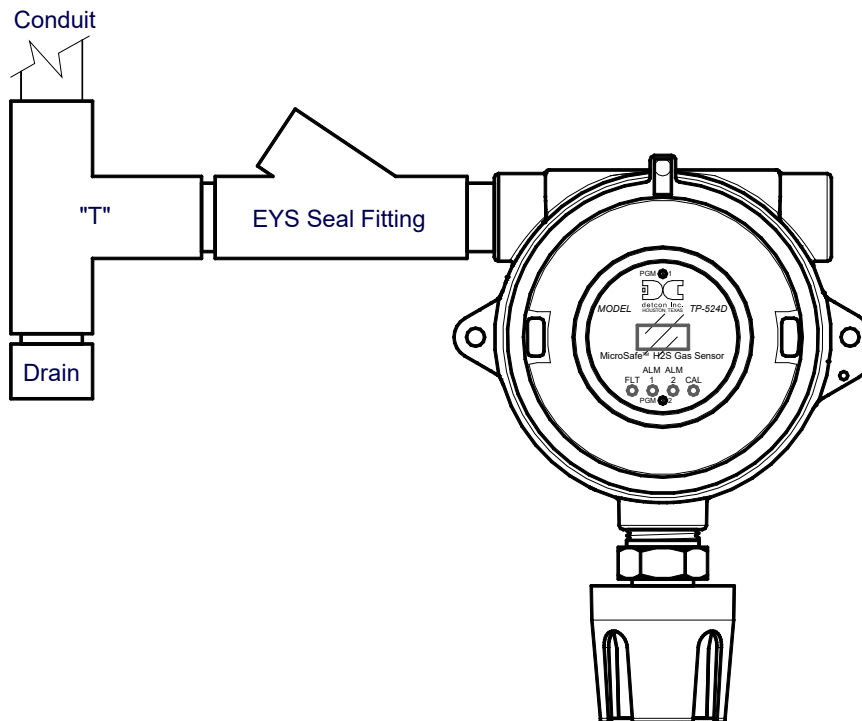
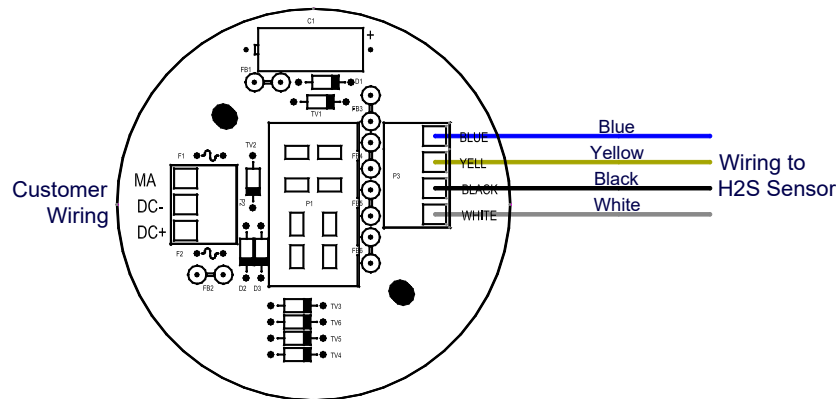

Figure 7 Typical Installation
Figure 8 Sensor Connector PCB
NOTE: In all installations the gas sensor should point straight down (refer to Figure 7). Improper sensor orientation may result in false readings and permanent sensor damage.
Proper electrical installation of the gas sensor is critical for conformance to Electrical Codes and to avoid damage due to water leakage. Refer to Figure 7 and Figure 8 for proper electrical installation.
NOTE: If a conduit run exits the secondary port, repeat the installation technique shown in Figure 7.
In Figure 7, the drain allows H₂O condensation inside the conduit run to safely drain away from the sensor assembly. The electrical seal fitting is required to meet the National Electrical Code per NEC Article 500-3d (or Canadian Electrical Code Handbook Part 1 Section 18-154). Requirements for locations of electrical seals are covered under NEC Article 501-5. Electrical seals also act as a secondary seal to prevent water from entering the wiring terminal enclosure. However, they are not designed to provide an absolute watertight seal, especially when used in the vertical orientation.
NOTE: For products utilizing the aluminum junction box option, the conduit seal shall be placed at the entry to the junction box (see Figure 7 as an example). For products utilizing the stainless
- Observing correct polarity, terminate the 3-conductor 4-20mA field wiring (DC+, DC-, and MA) to the sensor assembly wiring in accordance with the detail shown in Figure 8.